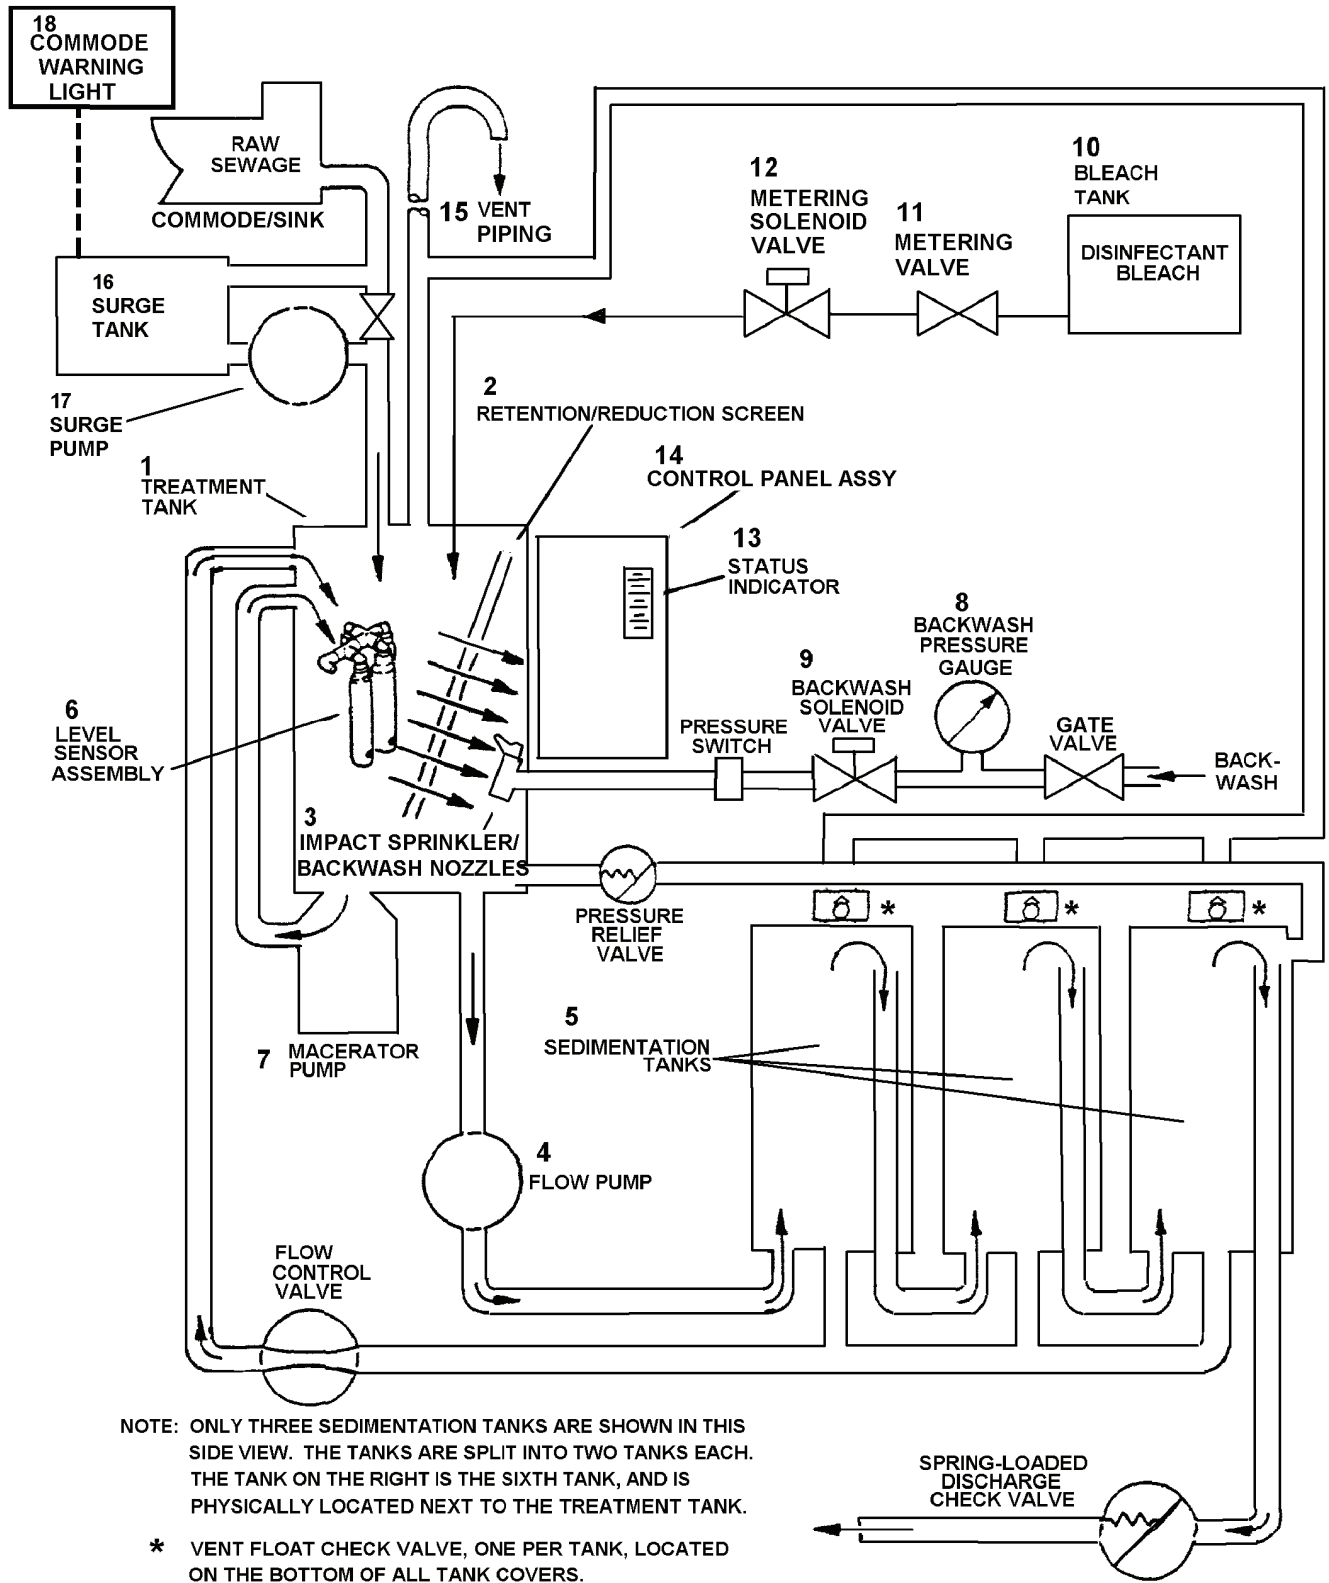
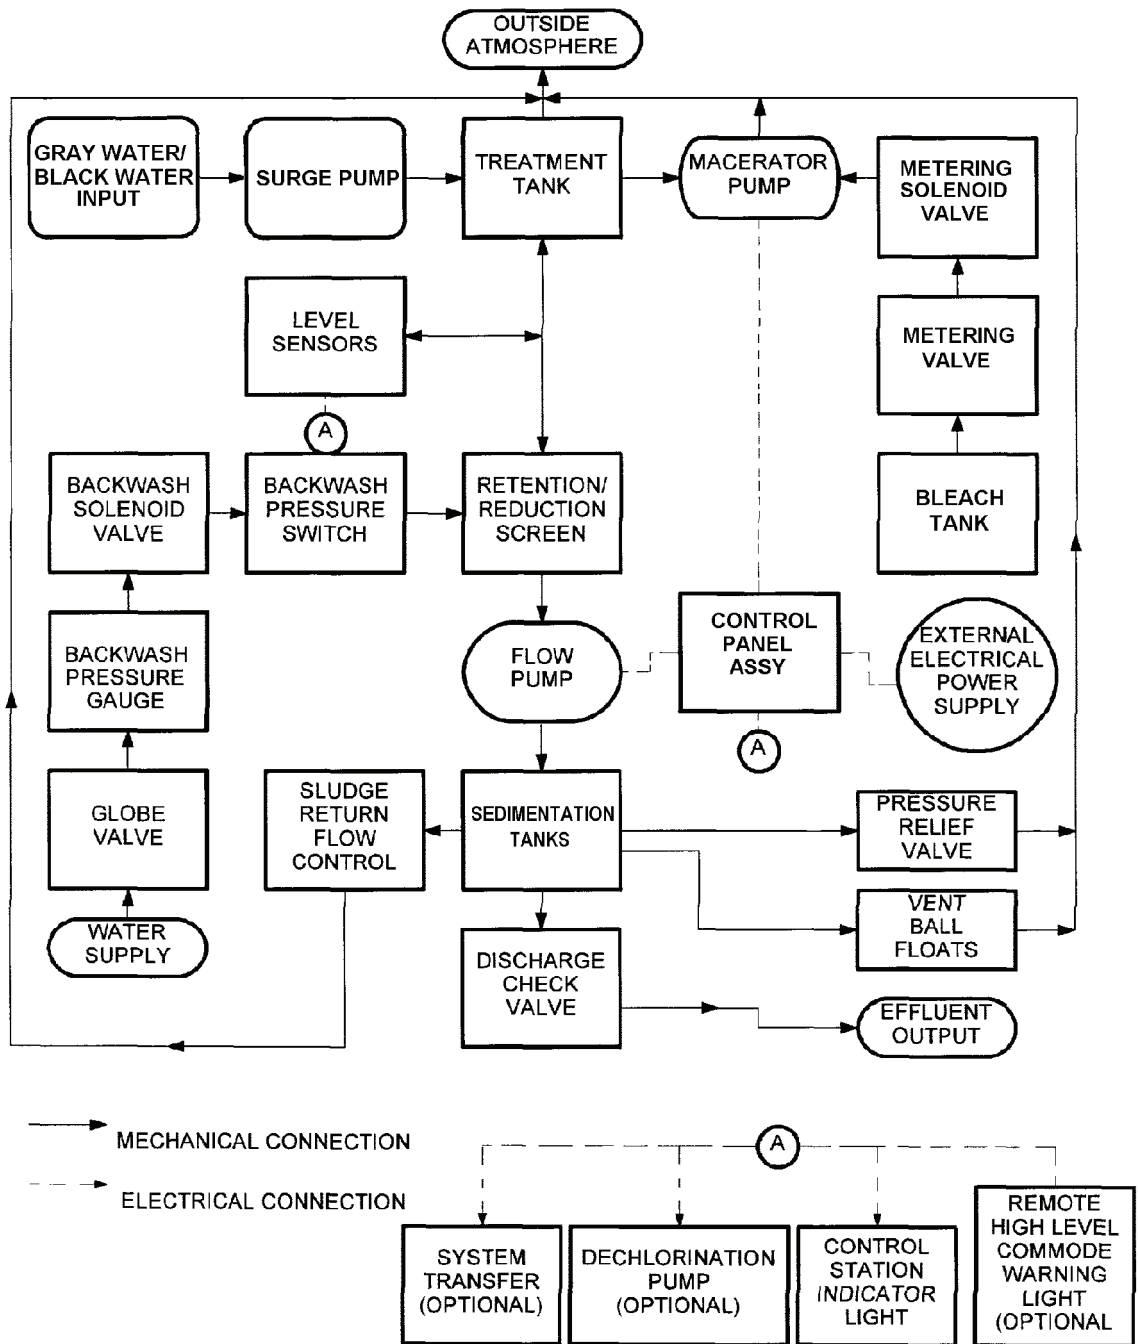

Figure 1-4. Functional Block Diagram/Interface.
Figure 1-5. Hardware Functional Block Diagram.
b. Treatment Process. (Figure 1-4.)
- (1) Blackwater and graywater from the surge tank enters the treatment tank of the MSD. The sewage is macerated and chlorinated. The macerated sewage is continuously recirculated into the treatment tank until the solids are small enough to pass through the retention/reduction screen. The retention/reduction screen is continuously backwashed to prevent solid build up and clogging/plugging. Sewage particles that passed through the screen enter the inlet of the flow pump, which pumps the sewage into the sedimentation tanks. Any agglomerated solids fall to the bottom of the sedimentation tanks and are returned via the sludge flow control valve to the treatment tank for further processing. If pressure in the discharge line builds up above 35 psig (241.5 kPa), the pressure relief valve opens to allow the return of processed sewage into the treatment tank.
- (2) The processed effluent is discharged from the MSD through a spring loaded check valve. The check valve creates a back pressure to allow flow through the sludge return lines. The minimum pressure required to start opening is 5 psi (34.5 kPa). This pressure will increase as the discharge flow increases. The effluent is disinfected with a bleach solution (sodium hypochlorite and water) and chemical oxidation within the treatment tank. Disinfection is accomplished by a metering system (solenoid and needle valve) that meters an appropriate amount of bleach into the treatment tank. The bleach solution is stored in a 10 gallon tank mounted above the treatment tank.
- (3) The level sensor assembly is located on the inlet side of the retention/reduction screen and consists of four electrodes (ground, low level, demand level, and high level). The level of the sewage in the treatment tank in relation to the electrodes is sensed by the microprocessor in the circuit control board assembly.
- (4) When the sewage level reaches the tip of the demand electrode, an 18 minute cycle is started. If the low level electrode is uncovered after 18 minutes, the MSD stops processing sewage and goes into the standby mode. If the low level probe is covered after 18 minutes, another 18 minute cycle continues without interruption and the cycles are repeated, if necessary, until the low level probe is uncovered. If the sewage level covers the high level electrode, the HIGH LEVEL LED light on the status indicator (control panel) begins flashing. If the high level condition persists for 10 minutes, the MSD will shutdown automatically. During this automatic shutdown period, the LED light on the status indicator will remain illuminated. The MSD will not automatically restart after a power failure, the reset pushbutton must be depressed to restart the MSD system.
**1-12. Functional Description Of Components.** The component descriptions are listed in the order of flow. See Figure 1-4 for location of item.
- a. Treatment Tank (1). Provides space for sewage retention and treatment.
- b. Retention/Reduction Screen (2). Retains larger solids in the treatment tank until they are broken down by the macerator and able to pass through and into the sedimentation modules.
- c. Impact Sprinkler/Backwash Nozzles (3). Washes the retention/reduction screen to prevent clogging by solid.
- d. Flow Pump (4). Moves the effluent from the treatment tank into the sedimentation tanks.
- e. Sedimentation Tanks (5). Three sets of split tanks (6 total) in series for the filtration and settlement of suspended solids.
- f. Level Sensor Assembly (6). Monitors the treatment tank level by sending a signal to the electrical junction box which controls pump operation. It is located inside the treatment tank.
- g. Macerator Pump (7). A garbage disposal type unit for shredding treated sewage.
- h. Backwash Pressure Gauge (8). Indicates the pressure on the backwash water inlet line. The gauge line located in the front of the unit is installed in the backwash water line on the underside of the unit.
- i. Backwash Solenoid Valve (9). Controls the backwash water while the system is processing or is in the rest period. It is located on the underside of the unit beneath the treatment tank area.
- j. Bleach Tank (10). Provides storage for the bleach solution. It is located separate from the unit and has a gravity feed for delivering the bleach through a metering valve and to the optional metering solenoid valve on the unit.
- k. Metering Valve (11). Meters the required amount of bleach solution into the treatment tank for disinfection of the effluent.
- l. Metering Solenoid Valve (12). Electrically operated valve controls delivery of bleach from the bleach tank to the unit. It operates only when the metering valve is open.
- m. Status Indicator (13). Indicates any motor malfunction or high level of sewage.
- n. Control Panel Assembly. (14). Provides location for the mode selector switch, microprocessor, electrical connections, and is the control system that continually monitors motor operation and treatment tank conditions.
- o. Vent Piping (15). Vents the sanitation device to the outside air. Vent float check valves within each sedimentation tank cover prevent liquid from entering the vent piping system.
- p. Surge Tank (16). Provides short term storage prior to treatment tank to prevent overflow when system is shutdown and prevent treatment tank from running low on effluent.
- q. Surge Pump (17). Transfers unprocessed sewage from the surge tank to the treatment tank, controlled by level sensors.
- r. Commode Warning Light (18). Activated by the tank level indicator on the surge/holding tanks. Indicates treatment tank is filled to capacity.
**1-13. Hardware Interface.** The MSD hardware interface details the interconnection and flow through the system. See Figure 1-5 for functional block diagram.
- (2) Place MODE switch to AUTO position.
- (3) Place POWER switch to ON position.
- (4) Push LOW VOLTAGE RESET pushbutton switch.
- (5) Device will now operate automatically in 18 minute cycles as required. See Figure 1-4 for Functional Block Diagram/Interface.
- (6) POWER ON LED indicator is continuously illuminated.